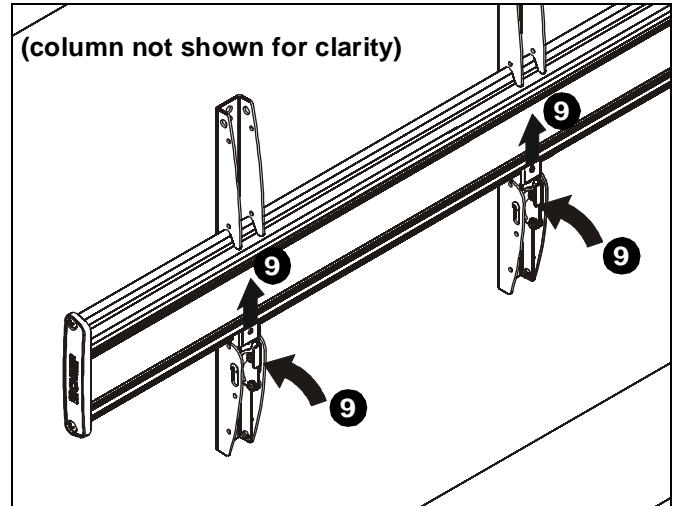

Figure 6
9. Move latches on interface uprights to the "closed" position to secure display to head assembly. (See Figure 6)